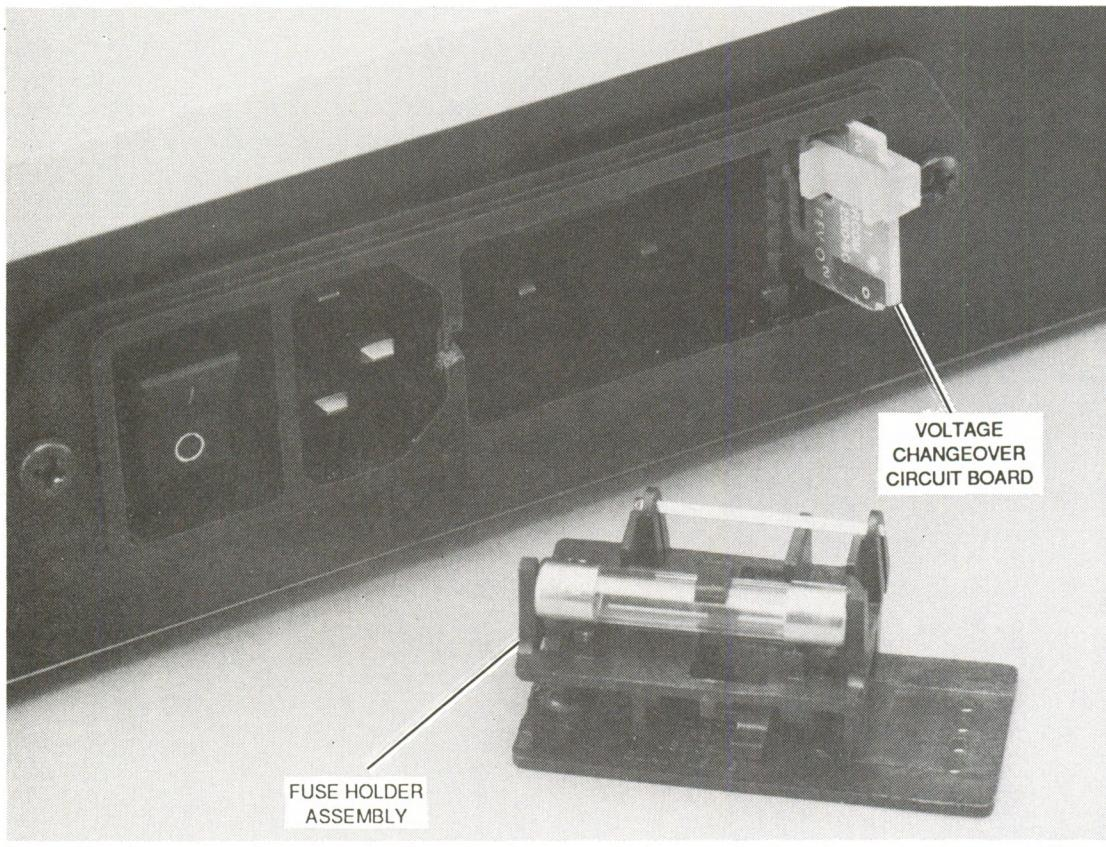

Figure 16-3. Keyboard Voltage Selection
Check keyboard to verify that it is set up for the line voltage used at the installation site. Keyboard is capable of accepting 120V or 240V power. Figure 16-3 shows the fuse holder and voltage changeover circuit board. The small voltage changeover circuit board inserted in slot behind fuse holder assembly on the keyboard rear panel determines appropriate voltage to be applied to keyboard. The changeover circuit board has a white plastic stem that protrudes through one of four holes in the fuse holder assembly cover, indicating voltage setting. Holes are marked 100V, 120V, 220V, and 240V, but only 120V and 240V positions are used. At sites using 120V, tip of white plastic stem should appear in the hole marked 120V. At sites using 240V, stem should appear in the hole marked 240V.
2. Insert small flat blade screwdriver into slot provided in fuse holder assembly and pry assembly from the keyboard unit. Refer to Figure 16-3.